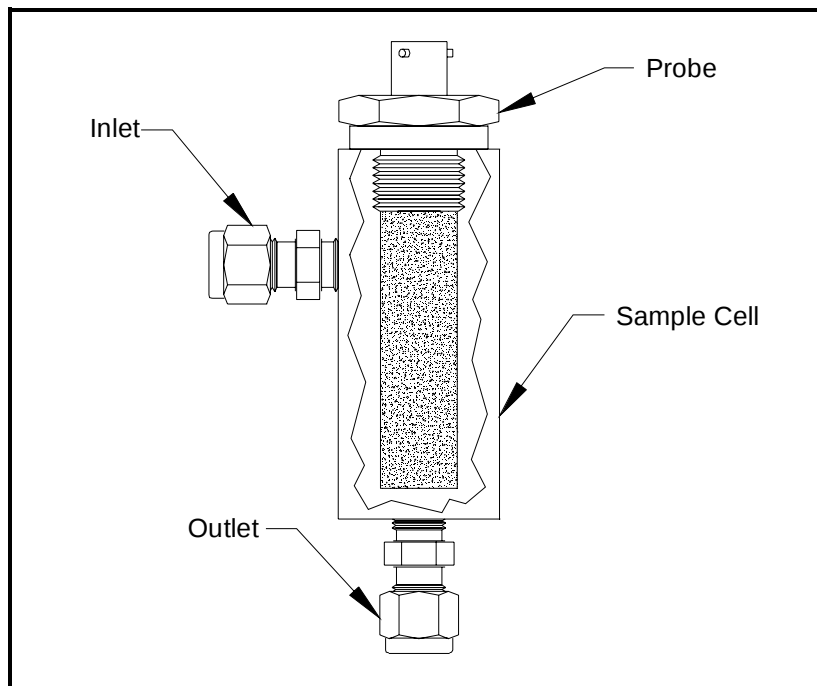

Figure 2-2: Probe Installed in Sample Cell
Refer to Figure 2-2 below, and follow these steps to install the probe into the sample cell:
3. Tighten the probe securely. Figure 2-2 below shows a typical probe installed in a sample cell.